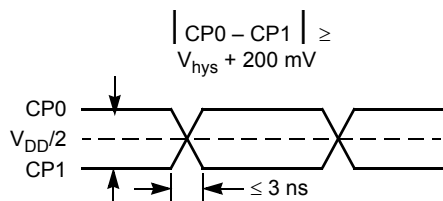

Figure 1. Receiver Input Waveform
8. Receiver input, $V_D = V_{CP0} - V_{CP1}$, at least 200 mV greater than hysteresis levels. See Figure 1.